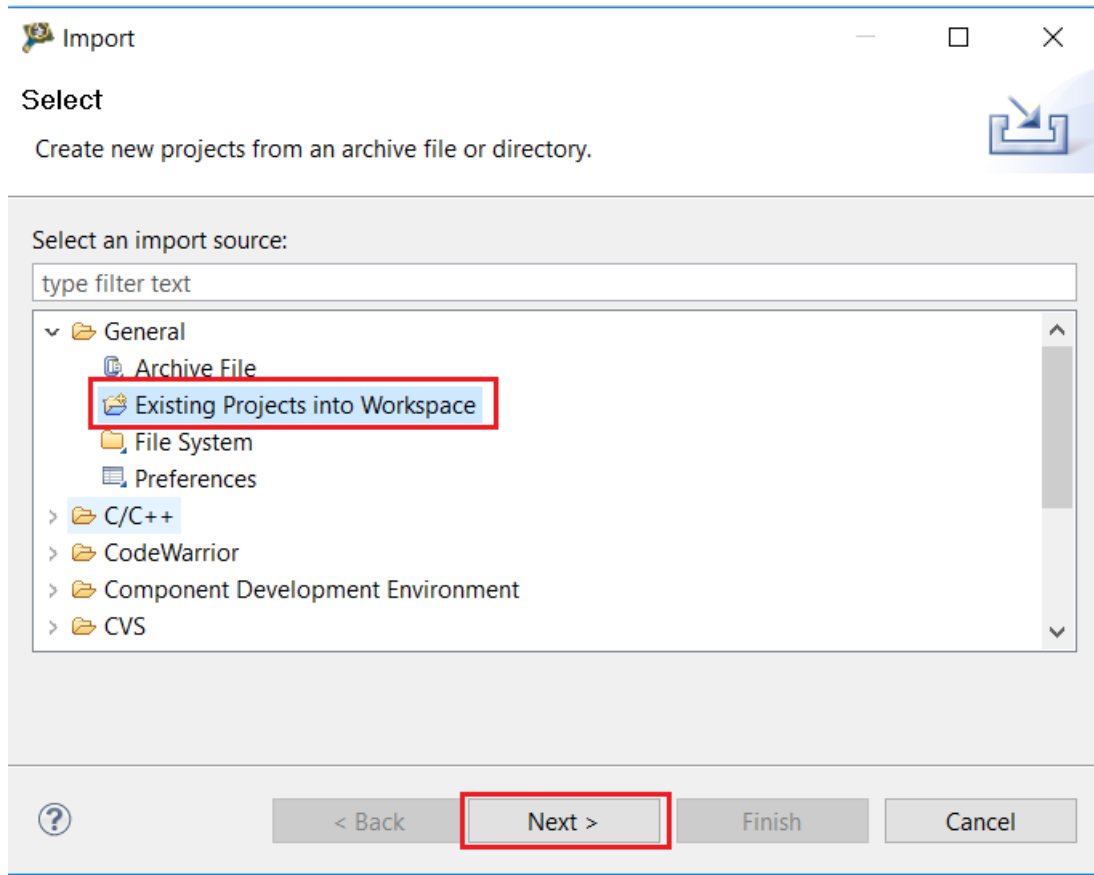

Figure 9. Importing project in CW—second step
- The “Import” window opens. Highlight “Existing Projects into Workspace” in the “General” folder, and click the “Next” button. The window shown in Figure 9 appears. Select “General/Existing Projects into Workspace”: